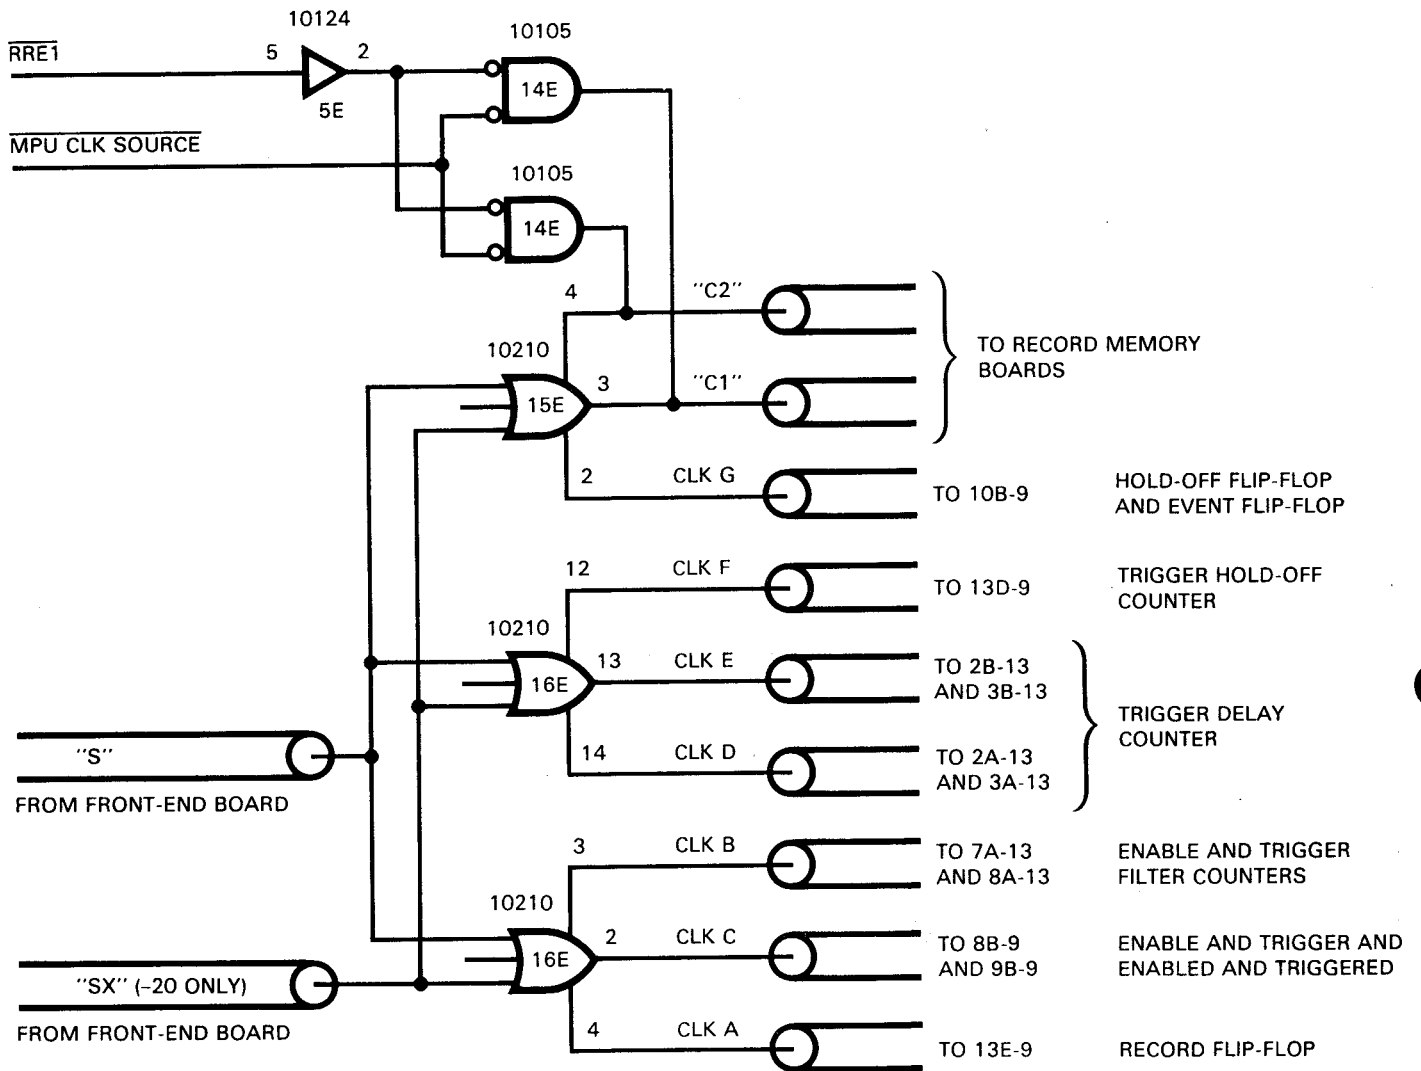

Figure 4.13 Block Diagram of Clock Distribution on Record Control Board
4.5.10 Clock distribution for the Record Control board is shown in Figure 4.13. The primary purpose of the clock distribution is to buffer the clock to reduce the loading effects. On early boards (designated by -10)